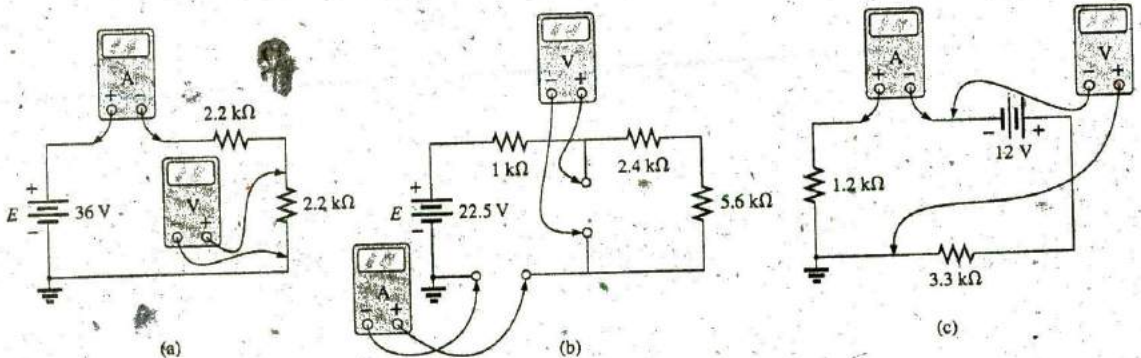

FIG. 5.96
- For each configuration in Fig. 5.96, what are the readings of the ammeter and the voltmeter?